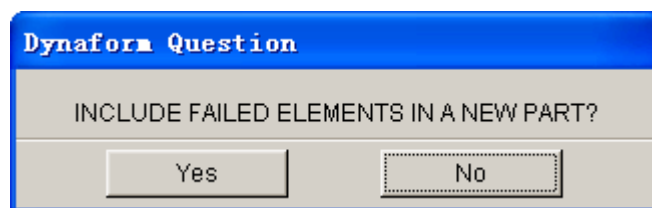

Figure 5.5.5 DYNAFORM Question dialog box
2. A eta/DYNAFORM QUESTION dialog box as illustrated in Figure 5.5.5 is displayed.